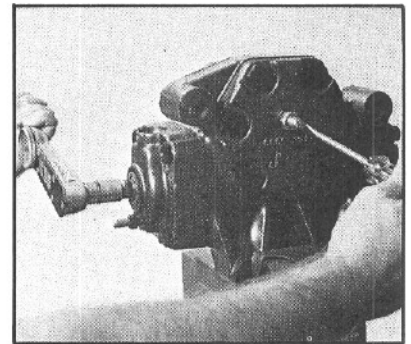

Figure 151
adjust screw; rotate input shaft 3. Adjust the sector shaft adjusting screw (51) while you rotate the input shaft 90 degrees each side of center, until the input shaft reaches a torque of 25-30 in. lbs. (FIG. 151).